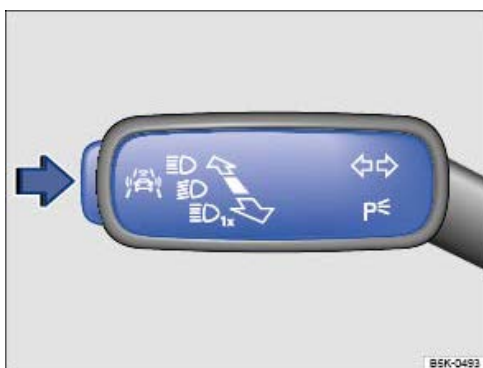

Fig. 60 On the turn signal and main beam lever on the left of the steering column: button for driver assist systems.
- Press the button → Fig. 60 in the direction of the arrow to open the Assist systems menu.